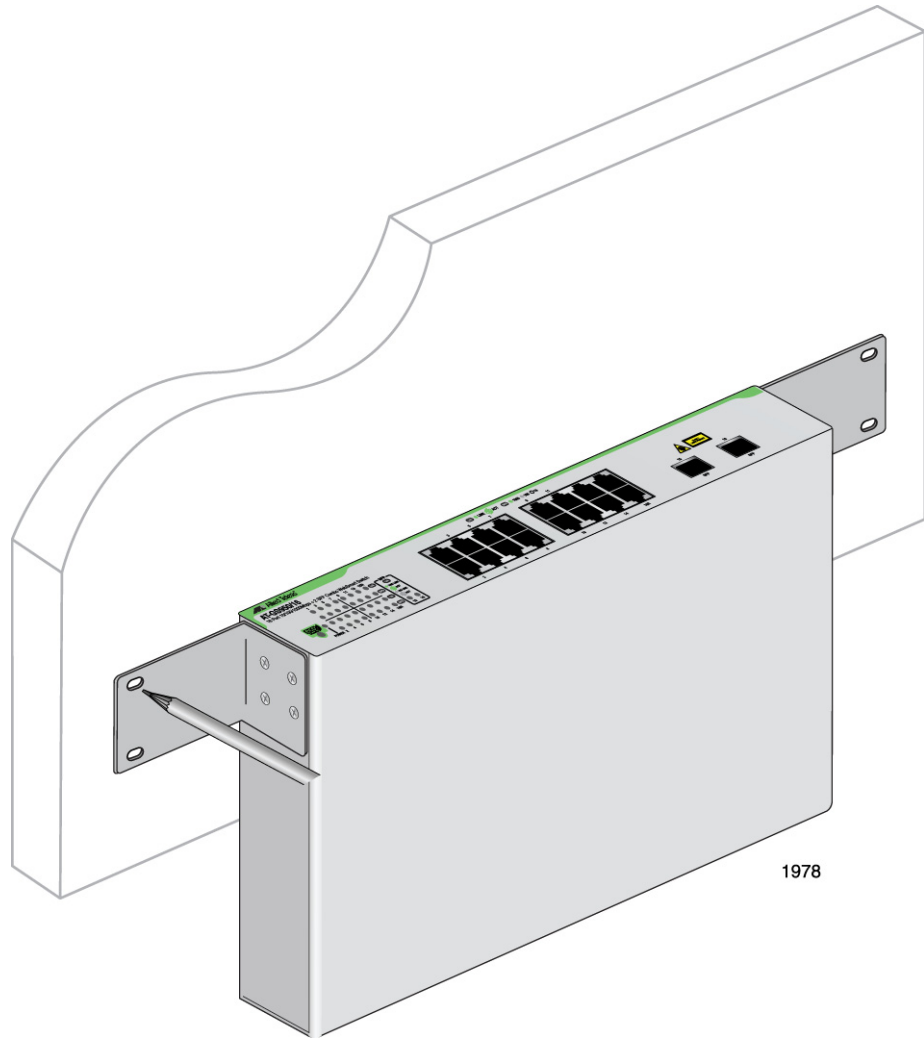

Figure 10. Marking the Screw Hole Locations
4. Have another person hold the switch at the wall location where the switch is to be installed, while you use a pencil or pen to mark the wall with the locations of the four holes in the brackets. The switch should be oriented such that its front faceplate is facing up and is level to the floor. See Figure 10 on page 36.